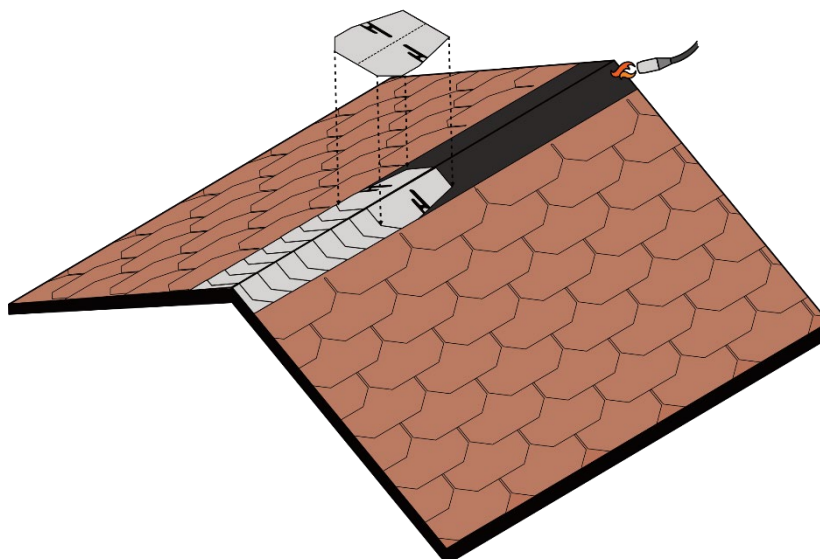

Fig. 19 – Ridge elements installation by torch
- Apply a band of bituminous membrane Safety EPP on the ridge by torch - Fig. 19.
- Proceed with the installation of the other ridge elements in sequence, leaving an exposed part of 9 cm between one element and the next, see Fig. 19.